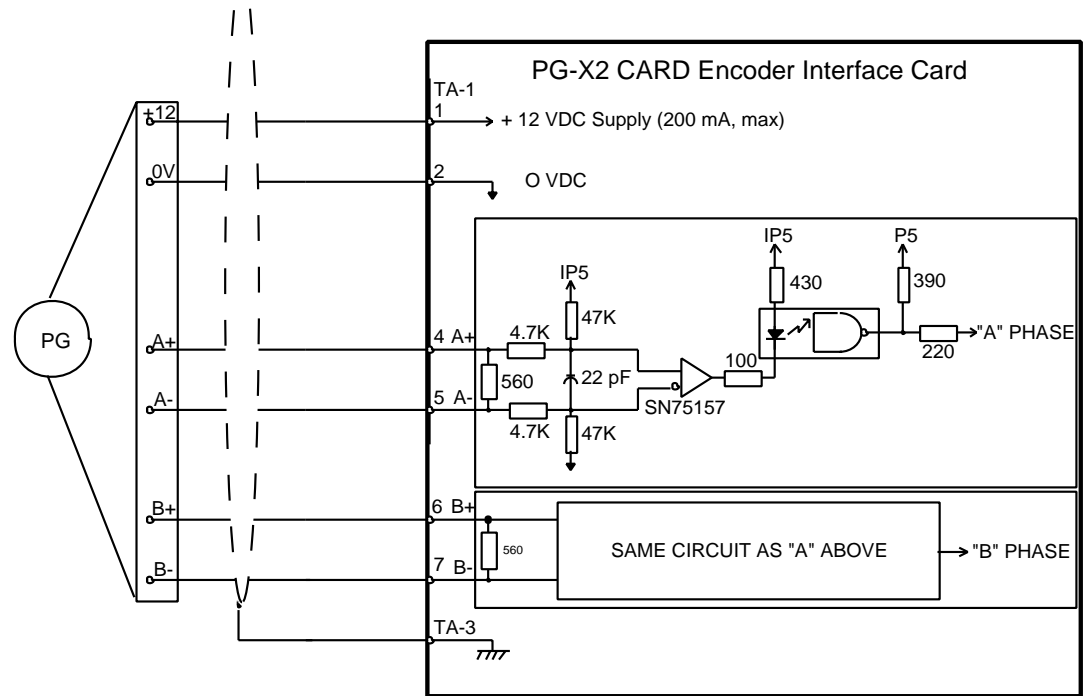
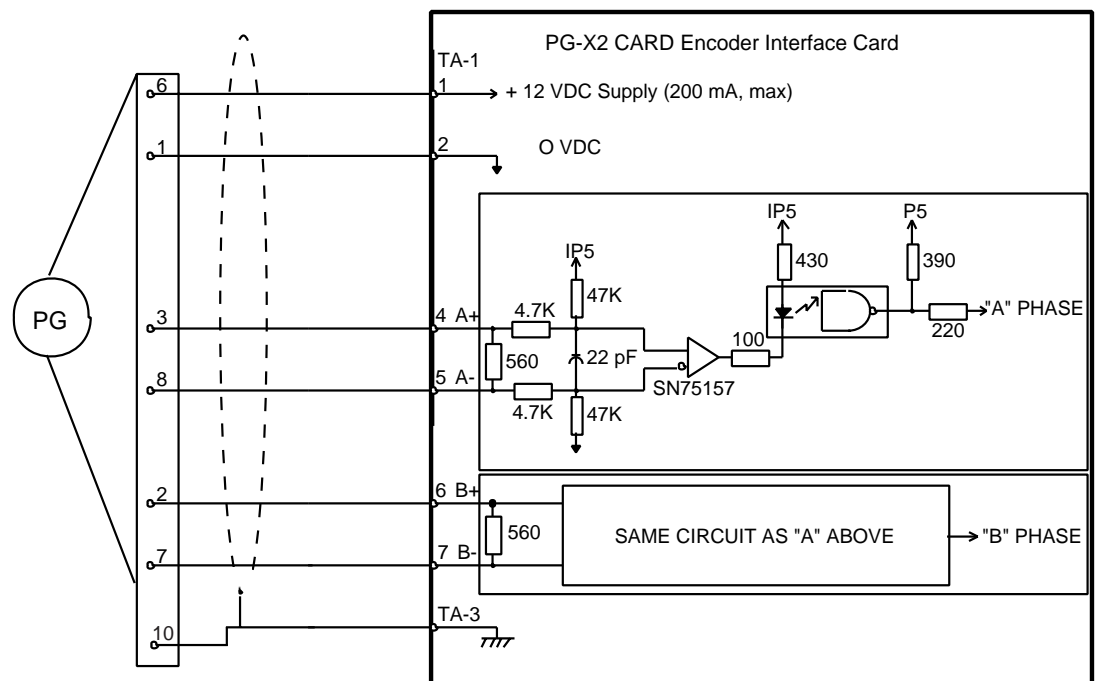

Figure 3-9: Generic Encoder
Figure 3-10: LakeShore Model 8500 Encoder
2. Connect the encoder to the PG-X2 Encoder Interface Card. Refer to Figure 3-9: “Generic Encoder” and Figure 3-10: “PG-X2 Interface Card Terminal Functions” on page 3-20.